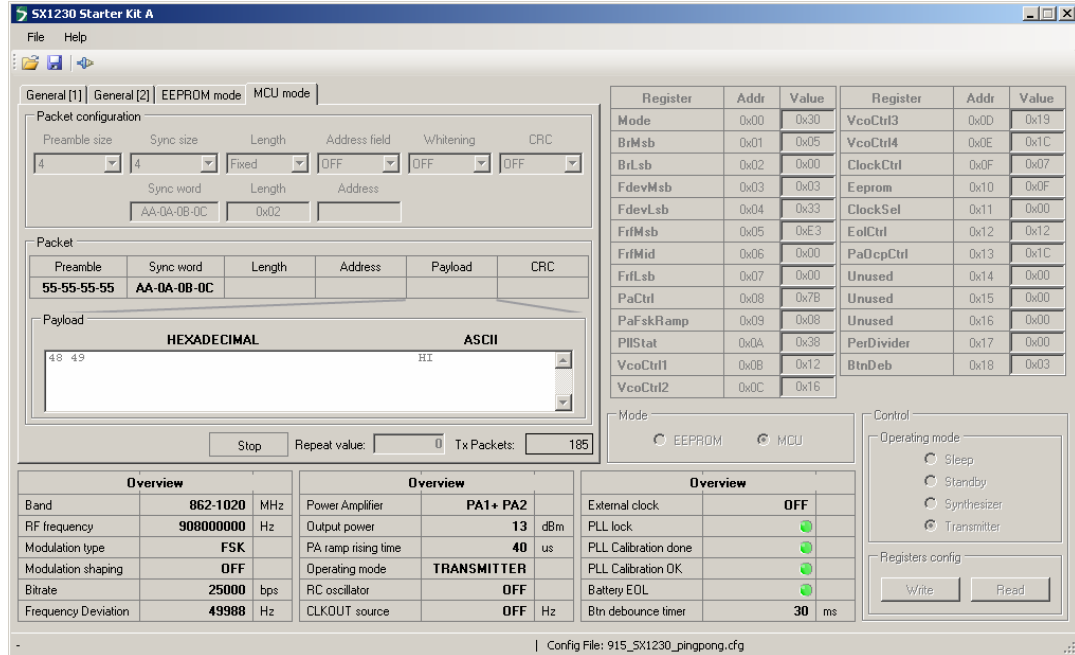

Figure 11. SX1230 During MCU Mode Packet Transmission
- Once successfully configured, the SX1230 must be placed in packet transmission mode. This is done by selecting the 'MCU mode' tab – note that a pre-configured frame format identical to that for the SX1212SKA is already entered into the display. It suffices simply to click on the 'Start' button to begin continuous transmission of this frame. For clarity a screenshot illustrating the display during transmission is shown in Figure 11.